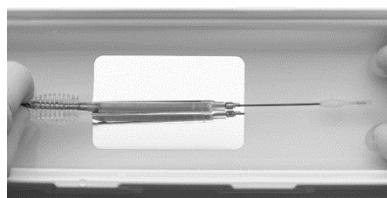

Figure 28
2. Advance the capsule guide tube over the catheter shaft toward the handle until the flexible tip is completely proximal to the paddle attachment and the end of the capsule is even with the edge of the rigid portion of the capsule guide tube (Figure 28).